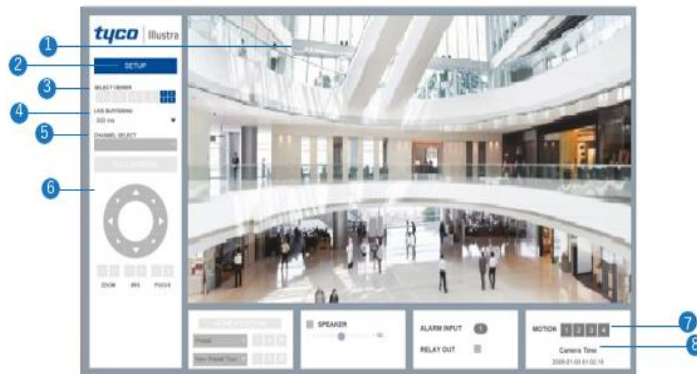

Figure 12
**Note:** Use IE10 (or above) or Chrome to access the camera web GUI. See the web GUI screen layout in Figure 12 and their descriptions below.